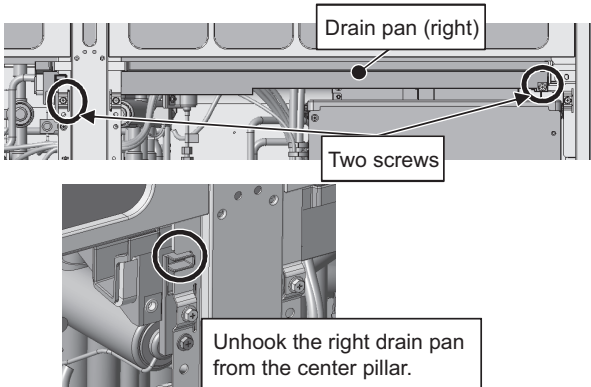

Figure 5
- (4) Remove the right drain pan by unscrewing the two screws. (See Figure 5.)